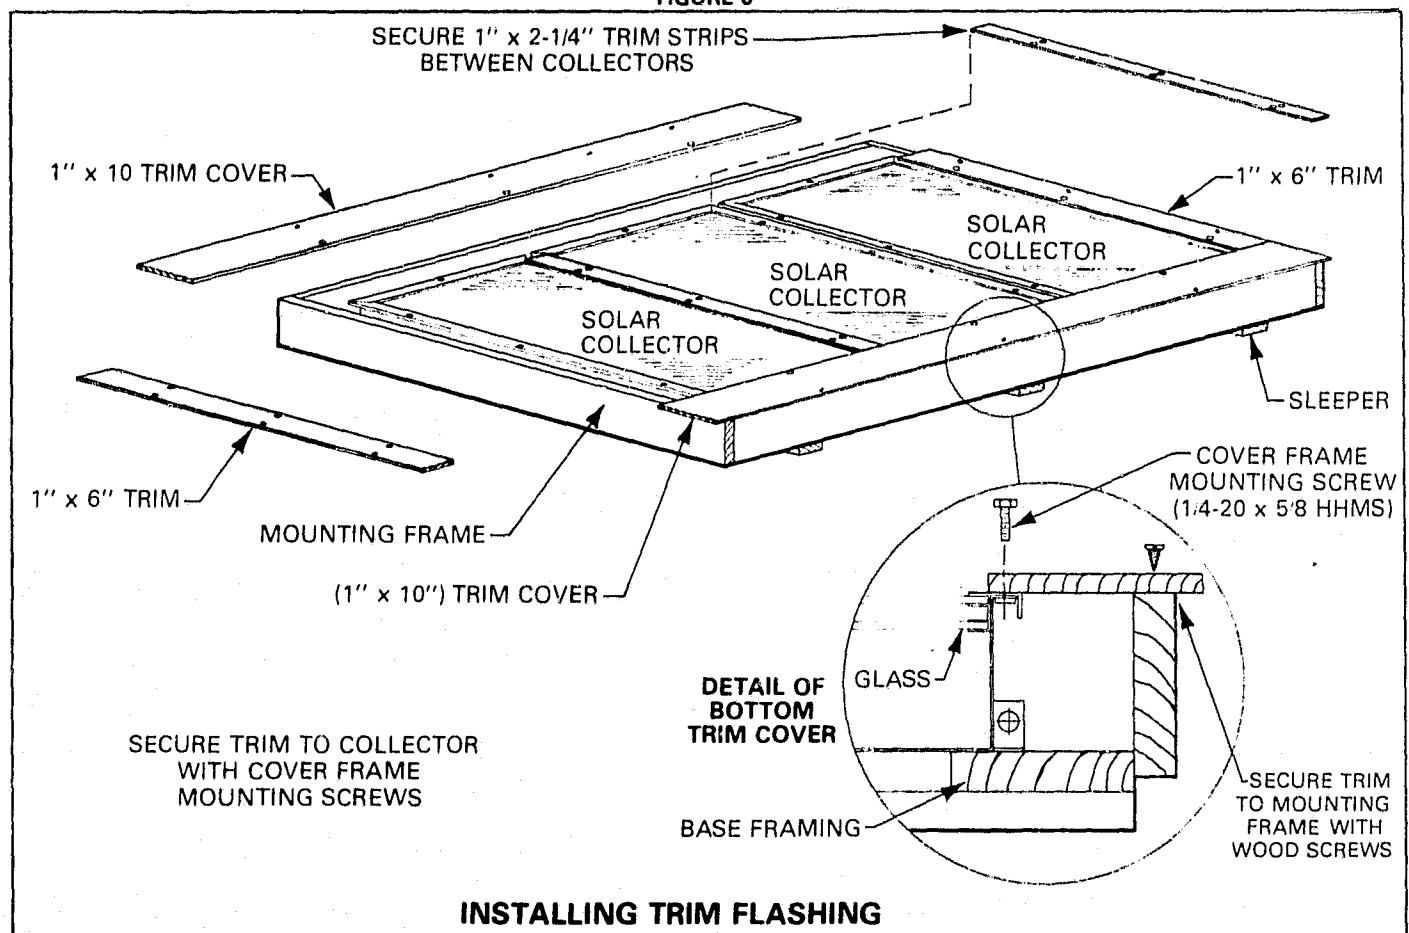

FIGURE 7
- 5 - After the system has been leak tested and the insulation has been installed on outdoor piping, flash the frame and solar collectors as illustrated in Figure 7. This flashing prevents air flow around collectors minimizing convection losses. This trim can bolt directly to the collector frame.